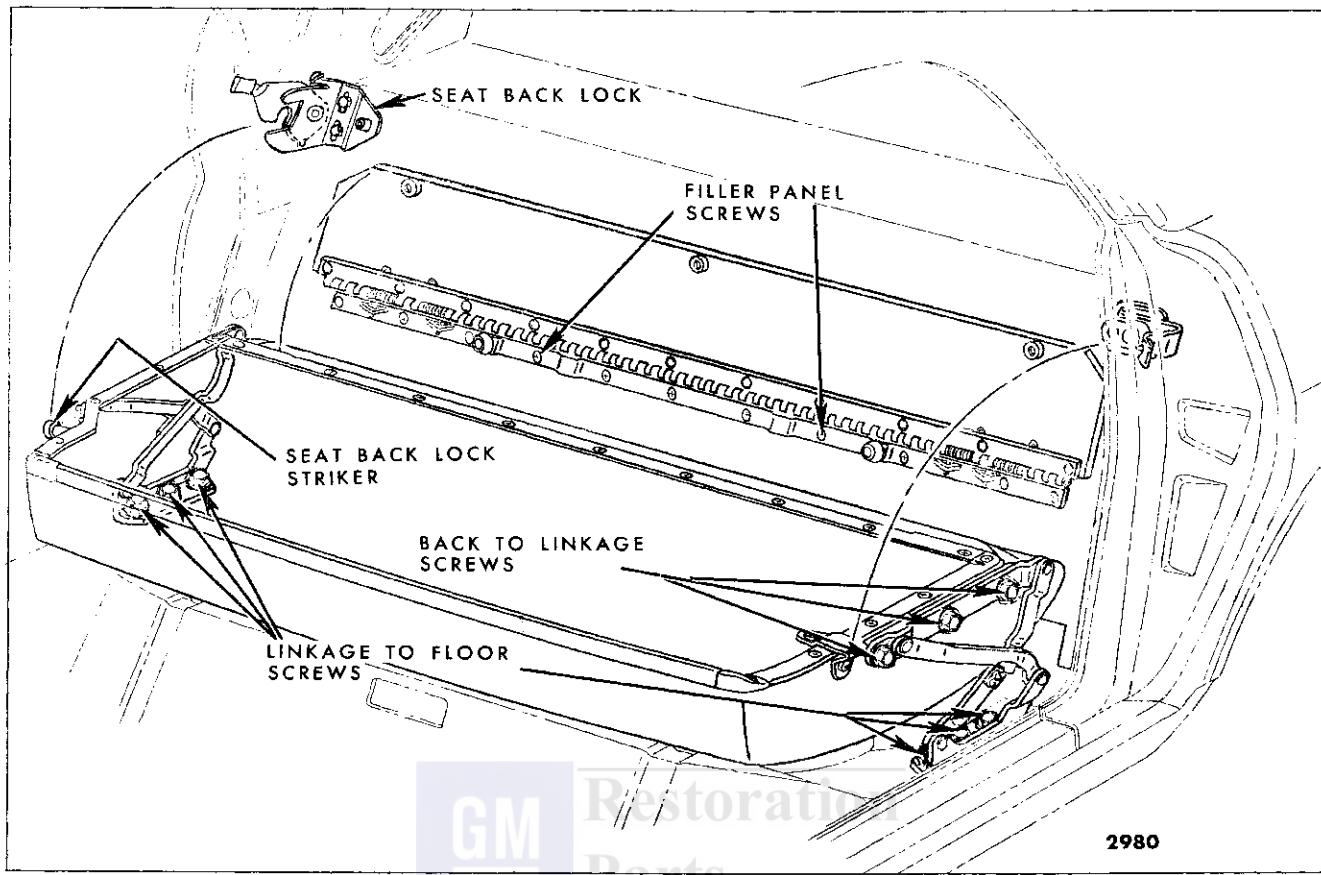

Fig. 15-49—Folding Rear Seat Back Assembly — Corvairs
2. Lower folding seat back; then, remove three screws from both sides of seat back securing seat back to folding linkage (Fig. 15-49).
2. Mark position of linkage on floor pan. Remove bolts securing folding seat back linkage to floor pan (Fig. 15-49) and remove linkage.
2. Remove lock attaching screws (Fig. 15-49) and remove lock assembly from rear compartment front panel.